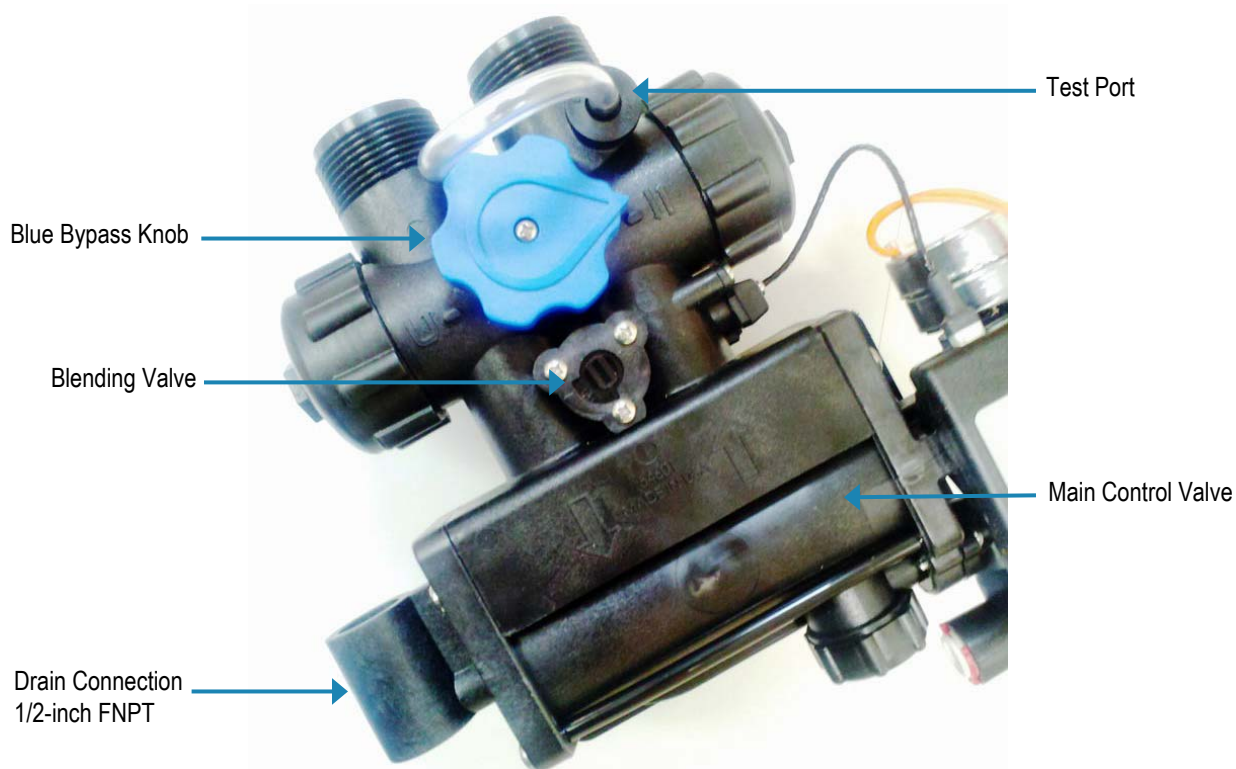

Figure 4: Bypass Valve
- E. Check the arrows on the bypass valve to ensure that the water flows in the proper direction. See Figure 4. **Caution:** Do not plumb the appliance in backward.
- A. Ensure that the bypass valve is left in the Service position. See Figure 4.
The bypass valve is attached to the main control valve. See Figure 4. To engage the bypass valve, locate the blue knob on top of the bypass valve. Turn the knob counterclockwise until it hits the stop. The appliance will be bypassed and all water to the home is raw, untreated water. To prevent untreated water from entering the home, water should not be used inside the home when the appliance is in Bypass mode. Ensure that the appliance is returned to Service mode when the appliance is repaired or the use of untreated water is complete by turning the blue knob clockwise until it hits the stop.
The blending valve is located between the input and output connections on the top of the bypass valve. See Figure 4. It is adjusted by placing a flat blade screwdriver in the slot provided and turning clockwise to open. Total movement of the blending valve from full closed to full open is 1/4 revolution. Precise setting of the blending valve will require “trial and error” testing. The initial setting should be conservative. Because of the blending valve’s ease of access and adjustment, the user can increase or decrease the setting according to their preference over a period of time.